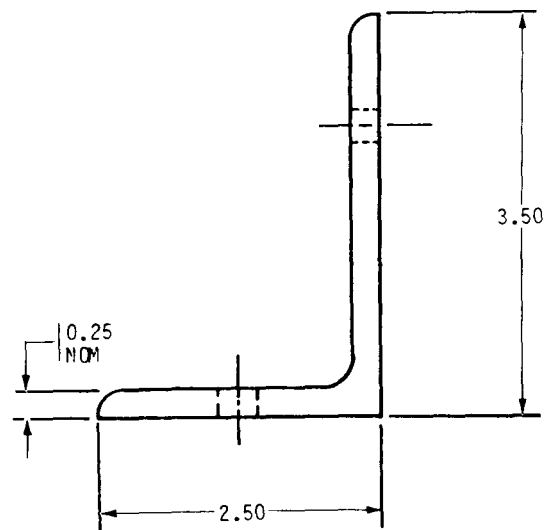

Figure 7. Dimensions for Bracket-7551851, Unit 1, 280.
d. Fabricate eight brackets (7551851) in accordance with figure 7.